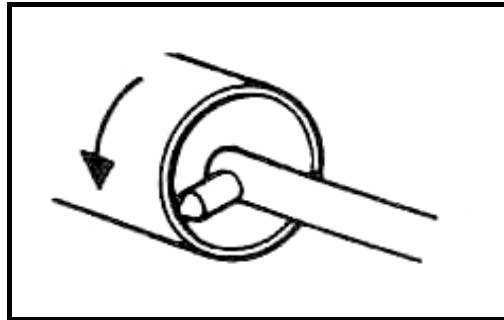

FIGURE 1.3
1.8 Which lathe operation is shown in FIGURE 1.3?